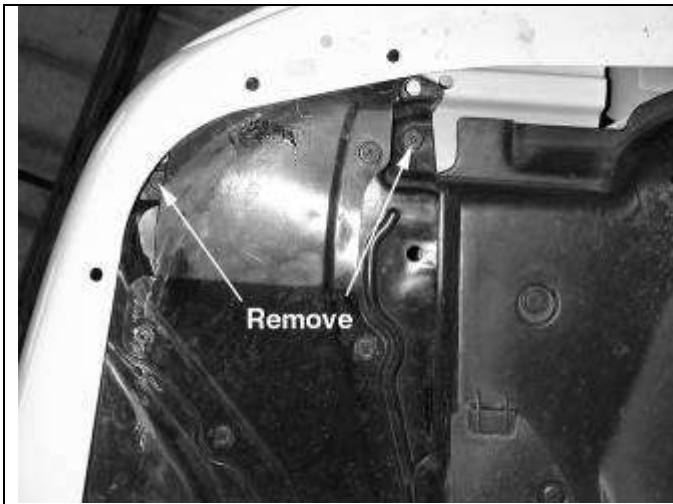

Fig. 3
- g. Remove the two plastic clips holding the wheel well liner to the underside of the vehicle's passenger side bumper. (Fig. 3) Your splash shield may look different if it's a 2004, if so you will only remove one clip.